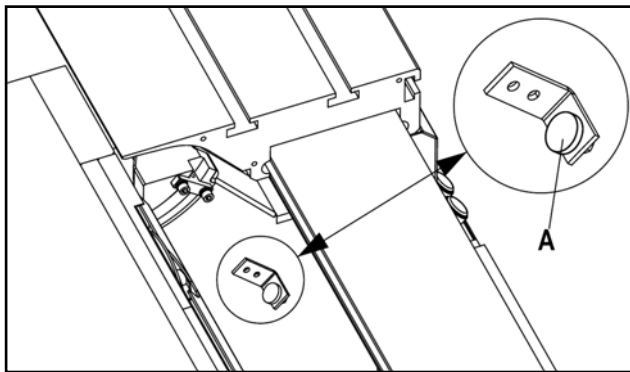

Fig.39
1. Adjusting screw (A), you can change the electronic stop position at 45 degree, as **Fig.39**.